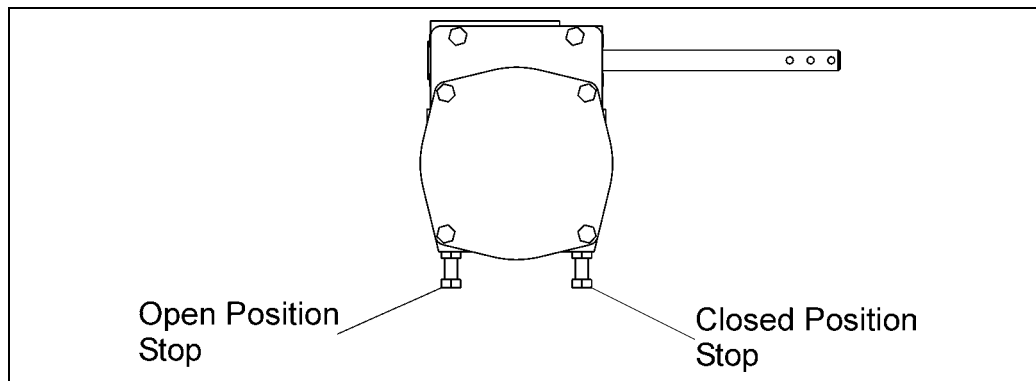

**Figure 3 – Valve Open Position**
4. Turn the handwheel or 2" wrenching square operator so the drive key/plug alignment is parallel to the valve flanges. See Figure 3 for valve open position.